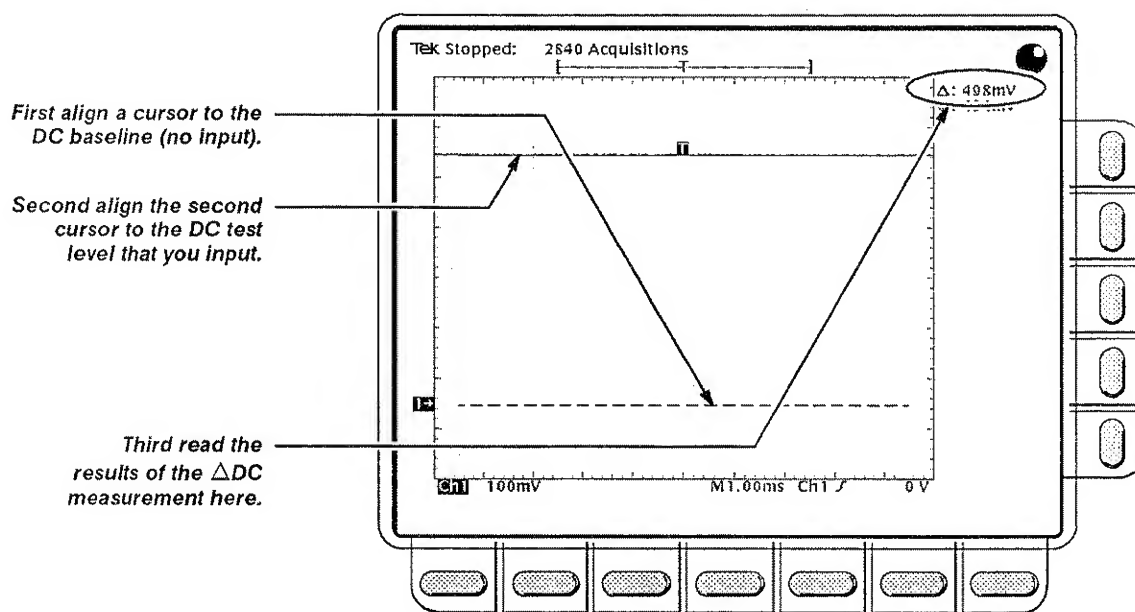

Figure A-6: Measurement of the DC Accuracy for Delta Measurements
- Press **CLEAR MENU**. Read the measurement results from the delta ( $\Delta$ :) readout, not the absolute (@:) readout. See Figure A-6 on page A-45.